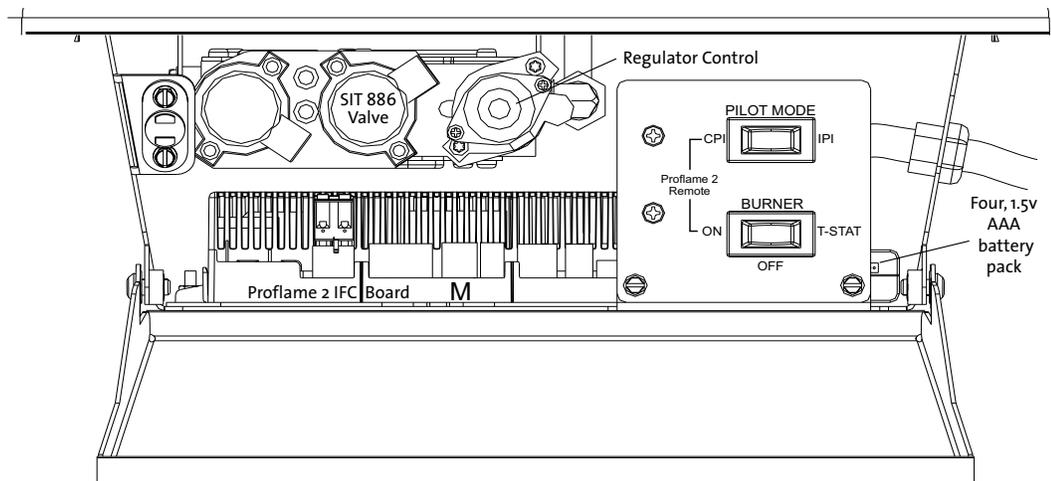

Figure 44.
5. Once the pilot is lit, burner operation is controlled by the rocker switch located on the front panel. See fig. 44. **ON / OFF** - use for manual control of the burner. It remains in the ON position for use with the Proflame 2 remote transmitter. **T-STAT** - use for optional wall thermostat or remote transmitter control.